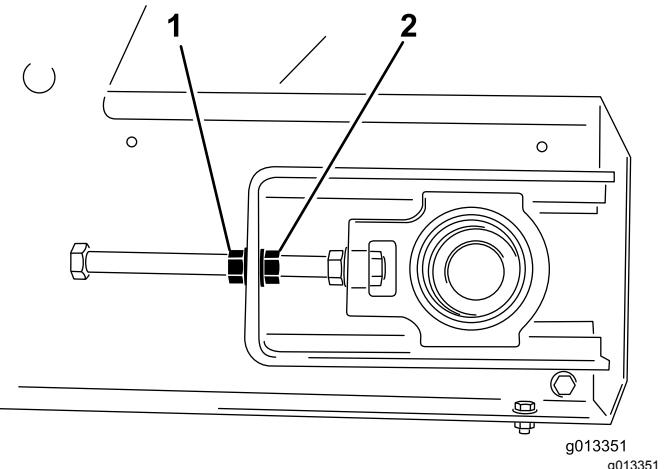

Figure 55
- With 2 wrenches, hold the end of the tensioner rod stationary and then loosen the locking nut, which is the nut closest to the end of the rod (Figure 55).
- On the side the belt is tracking towards, hold the end of the tensioner rod stationary, then loosen the locking nut and tighten the adjuster nut by 2 flats of the nut (Figure 55).